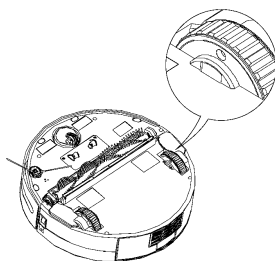

Figure 3
02. Align the protruding fastener at end of the holder (See figure 2) to the sunken positions on the inner sides of the 2 wheels (See figure 3) and press them down. Then both ends of holder will be locked